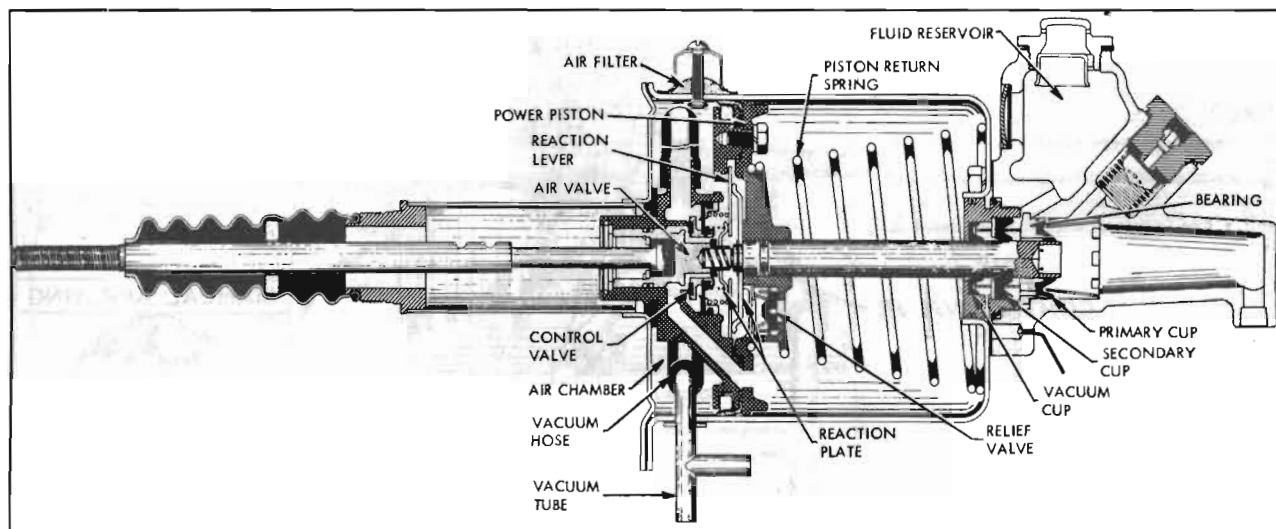

Figure 9-14—Moraine Power Brake Unit—Released Position
As shown in figure 9-14, a cover closes the forward end of the cylinder housing to form a large chamber in which the power piston and related parts operate. The section on the cover side of the piston is called the *air chamber* since it is open to atmospheric pressure at all times. The section on the opposite side of the piston is called the *vacuum chamber* since it is subjected to manifold vacuum during power application of brakes. All air entering the cylinder housing passes through an air cleaner.
(1) *Released Position.* See figure 9-14. The pedal return spring and the valve return spring hold the push rod and attached air valve so that the air valve is held clear of the floating control valve. At the same time, the valve diaphragm spring holds the floating control valve against its seat on the power piston, thereby closing the passage connected to manifold vacuum.
to close the vacuum passage. Since both sides of the power piston are now open to atmospheric pressure, the piston return spring forces the power piston and related parts rearward to the unapplied position (fig. 9-14).
NOTE: Refer to figures 9-14 and 9-15 for identification of parts not shown in figures next to overhaul steps.